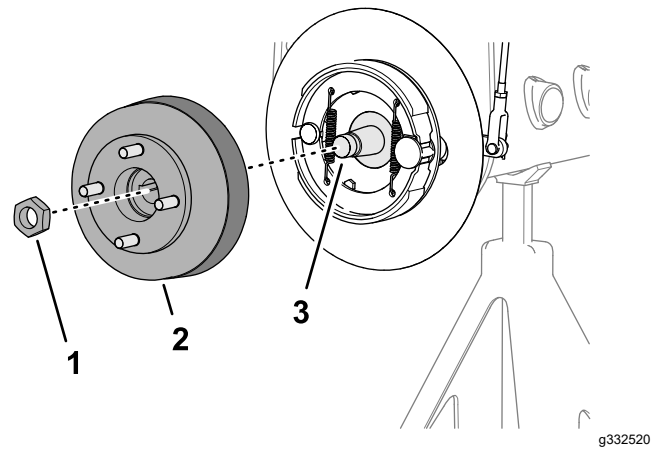

Figure 65
1. Remove the locknut that secures the hub to the wheel-motor shaft (Figure 64 or Figure 65).
4. Use the specified wheel hub puller to remove wheel hub and brake drum from the wheel-motor shaft (Figure 64 or Figure 65).